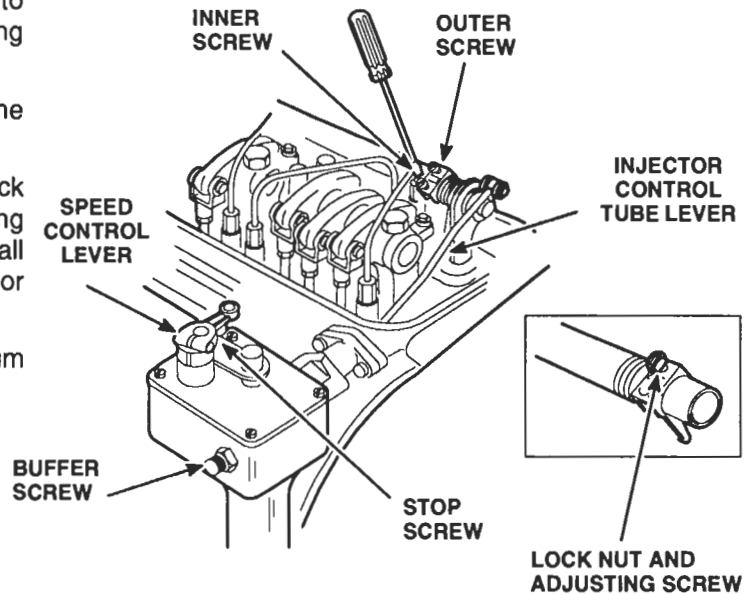

Figure 2. Positioning No. 1 Injector Rack Control Lever
2. Loosen all the inner and outer injector rack control lever adjusting screws or adjusting screws and locknuts (Figure 2.) Be sure all the control levers are free on the injector control tube.